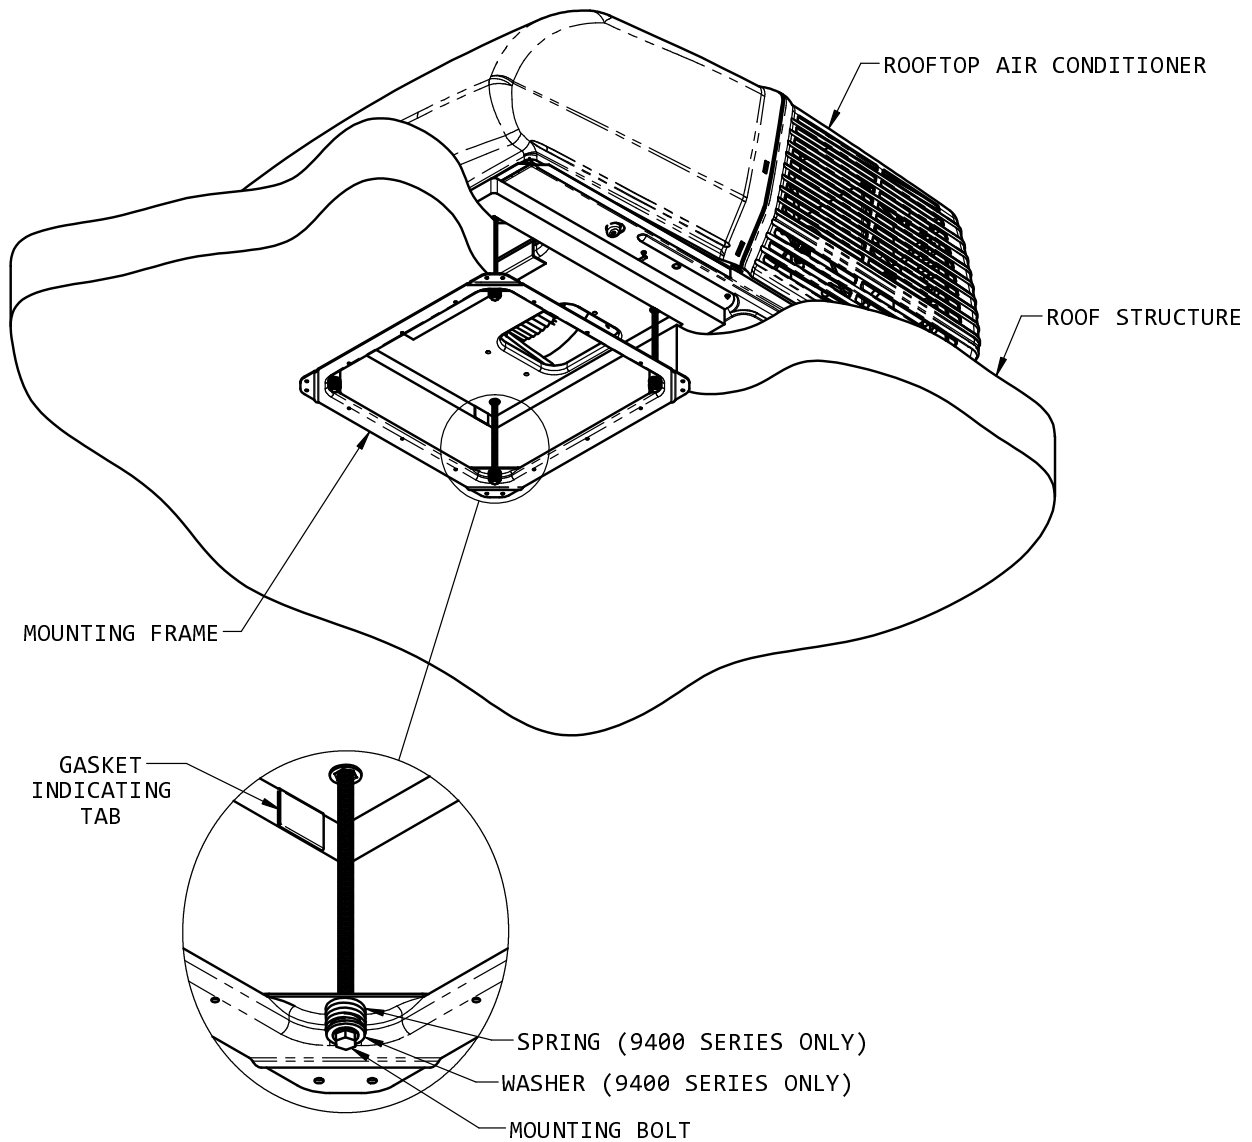

FIGURE 4
A mounting frame is supplied with the ceiling assembly. Follow the steps below to secure the air conditioner to the roof. Refer to Figure 4.
- B. Install the ceiling assembly mount frame using the four bolts found with the ceiling assembly. The 9400 series ceiling assemblies also utilize mounting springs and washers over the bolts (See Figure 4).